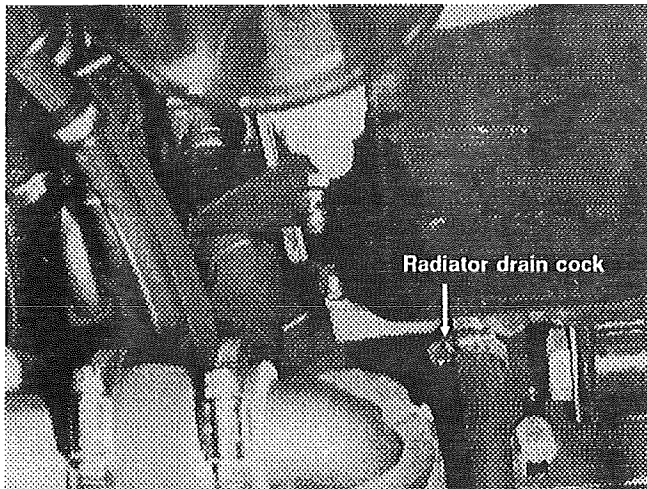

FIG. 8
6. Open the radiator drain cock located at the bottom of the radiator (see fig. 8).